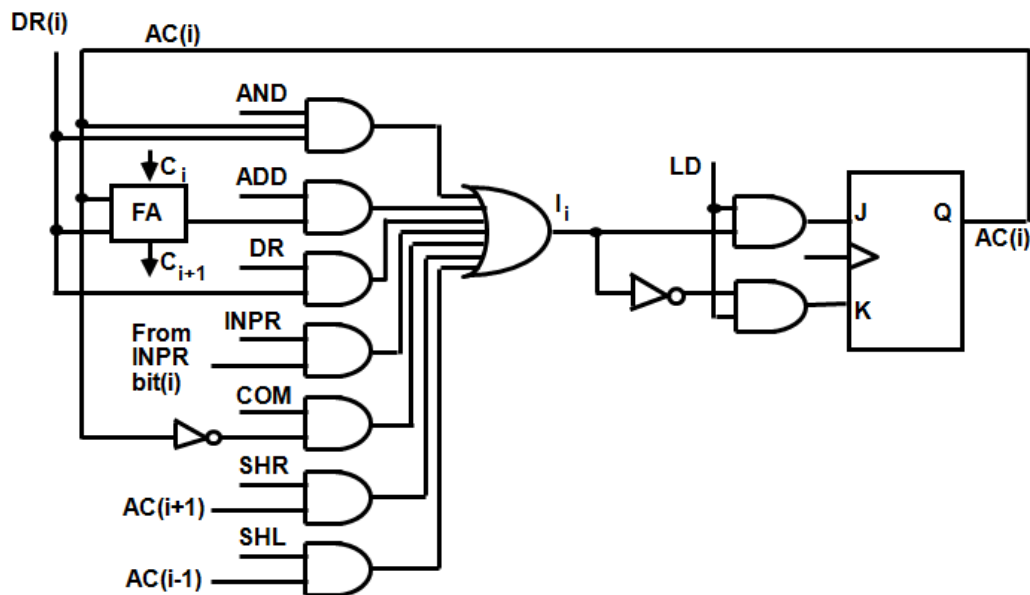

Figure 2.18: One stage of adder and logic circuit
- The adder and logic circuit can be subdivided into 16 stages, with each stage corresponding to one bit of AC. The internal construction of the register is as shown in Figure 2.18.
- We note that each stage has a JK flip-flop, two OR gates, and two AND gates. The load (LD) input is connected to the inputs of the AND gates.
- One stage of the adder and logic circuit consists of seven AND gates, one OR gate and a full-adder (FA).